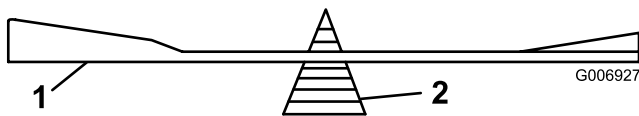

Figure 48
- Check the balance of each blade by putting it on a blade balancer (Figure 48). If the blade stays in a horizontal position, the blade is balanced and can be used. If the blade is not balanced, file some metal off of the back side of the blade. Repeat this step until the blade is balanced.